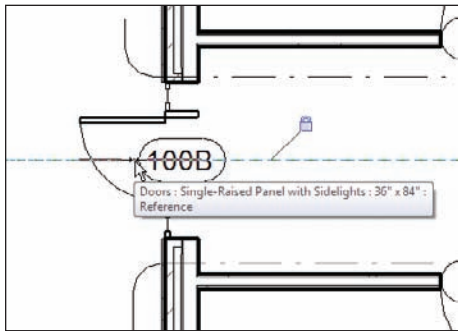

FIGURE 4.34 You can create a locked constraint by using the Align command even if the items were in alignment to begin with.
5. Pick the blue padlock to lock the doors to the center reference plane (see Figure 4.34).